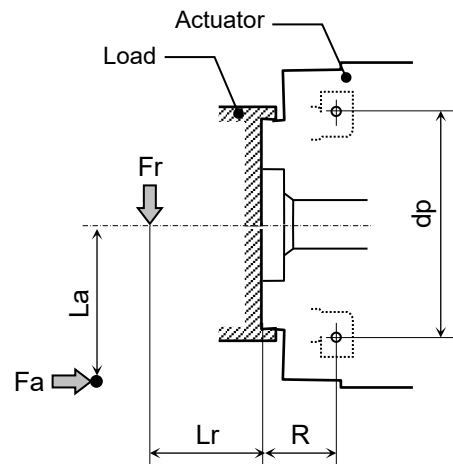

Fig.1 Loads
Fr_{max} : Maximum radial load in N(kgf); See Fig.1.
Fa_{max} : Maximum axial load in N(kgf); See Fig.1.
L_r , L_a : Loading point in mm; See Fig.1.
R : Offset; See Fig.1 and Table 1.
F_{rmax} : Maximum radial load in N(kgf); See Fig.1.
F_{amax} : Maximum axial load in N(kgf); See Fig.1.
L_r, L_a : Loading point in mm; See Fig.1.
dp : Circular pitch of roller: See Fig.1 and Table 1.
d_p :	Circular pitch of roller: See Fig.1 and Table 1.
L_r, L_a :	Loading point in mm; See Fig.1.
R :	Offset; See Fig.1 and Table 1.
- $M_{\max}$: Maximum torsional moment in N•m(kgf•m); obtained by the formula (1)
- $F_{r \max}$: Maximum radial load in N(kgf); See Fig.1.
- $F_{a \max}$: Maximum axial load in N(kgf); See Fig.1.
- d_p : Circular pitch of roller: See Fig.1 and Table 1.